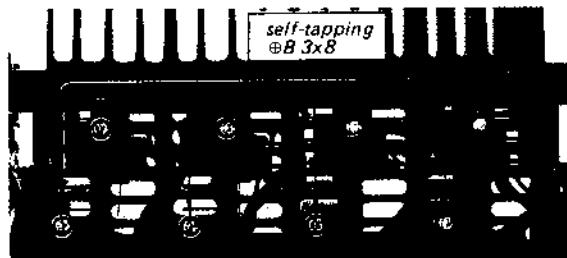

Fig. 2-15 Heat sink removal
- Remove the four self-tapping screws ($\#B\ 3\times8$) securing a pair of heat sink to the chassis as shown in Fig. 2-15.